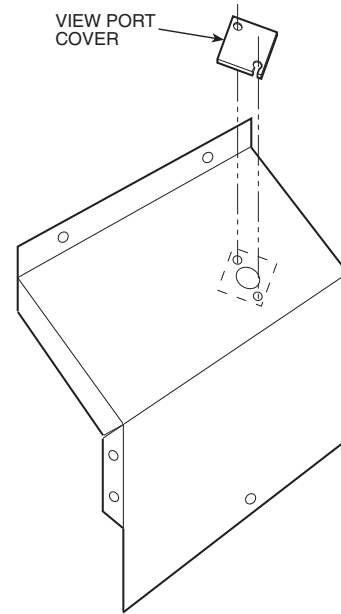

Fig. 47 — Inlet Hood View Port Cover Installation (14-in.)
3. Inlet hoods are shipped unassembled and must be assembled on the access panel (see Fig. 45-47). Flanges of the hood top and sides should be installed on the inside of the access panel openings with the screws provided. The sides should be placed on the inside of the top hoods for all hood assemblies (6-in. and 14-in.). Attach speed clips to screen. Insert screen into bottom opening of 6-in. and 14-in. hoods and secure it with 3 screws. Attach view port cover over 14-in. inlet hood opening (Fig. 47). Secure with two screws.